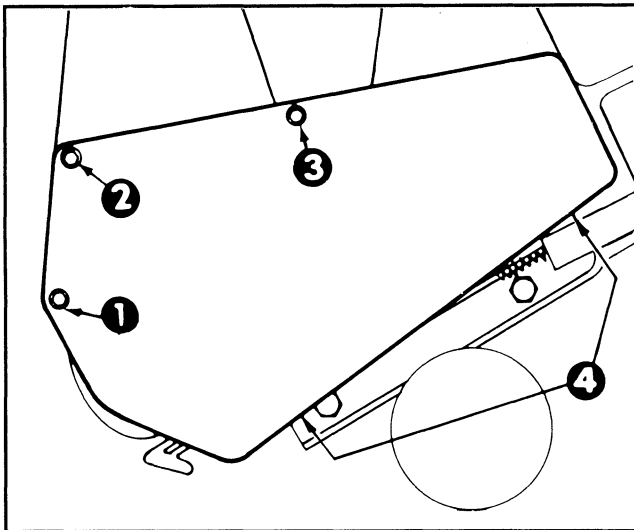

Figure 13
REPLACING DRIVE BELT (Fig. 13 & 14)
2. Remove (3) tapping screws, (2) capscrews, (1) washer and (2) nuts securing belt cover to snowthrower frame (Fig. 13). Set belt cover aside.